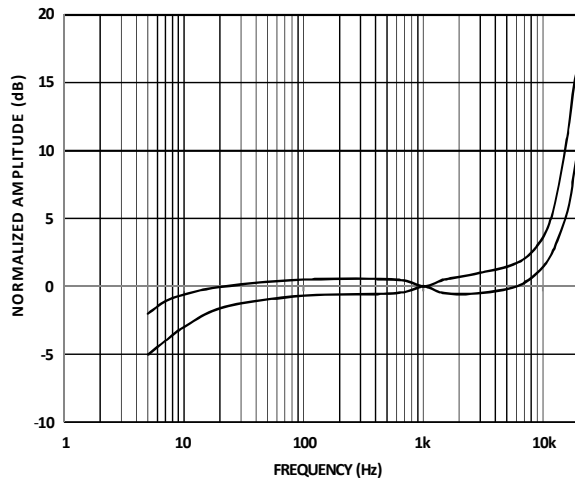
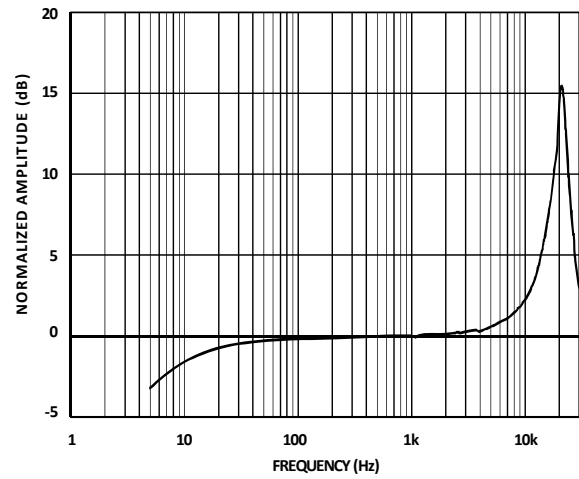

Figure 3. Frequency Response Mask
Figure 4. Frequency Response (Measured)
**Note 1:** See Figure 3 and Figure 4.